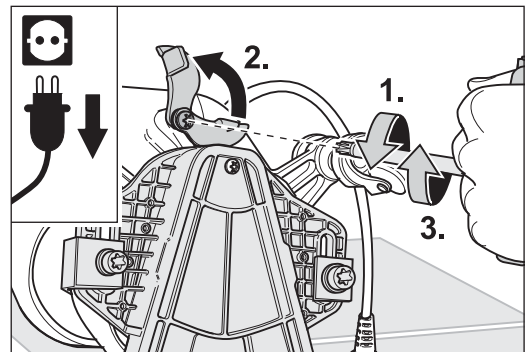

Fig. 33 Loosen the screw (1.), turn the belt tightening plate away from the attachment (2.) and retighten the screw (3.).
- 4 Undo the screw of the belt tightening plate with the universal spanner (Fig. 33, 1.).
- 5 Turn the belt tightening plate away from the attachment (Fig. 33, 2.) and retighten the screw of the belt tightening plate (Fig. 33, 3.).